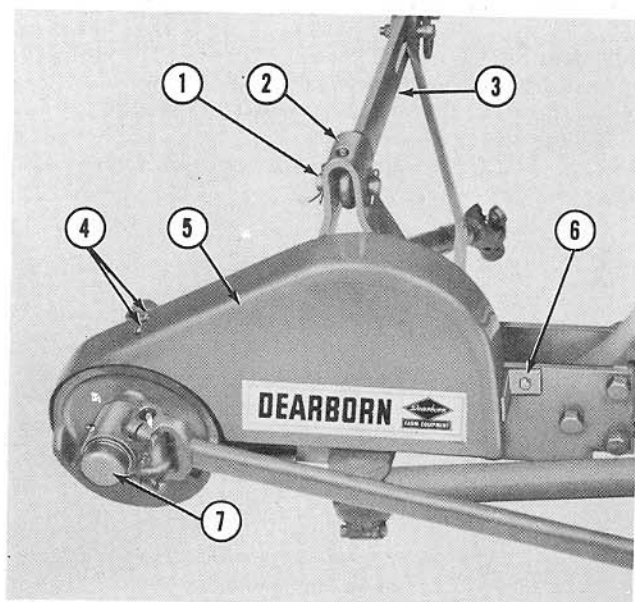

Figure 7
11. Attach the mower belt guard (5), Figure 7, to the mower main frame as follows:
- b. Secure the guard to the bracket with the two machine screws (4), Figure 7.
- c. Attach the guard to the threaded hole in the main frame with a 1" cap screw (6), Figure 7.
12. Attach the mower top link (3), Figure 7, to the top of the A-frame (2) with a 3" pin (1) and secure each end with the cotter pins provided.